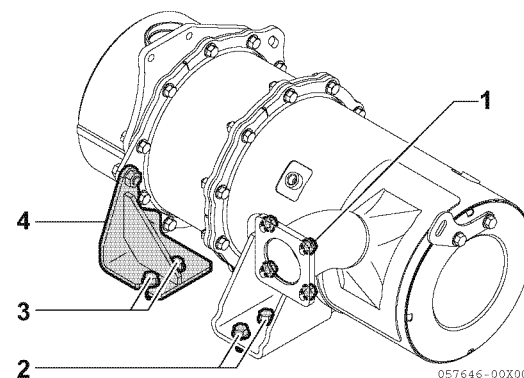

Figure 13-23
- Remove the 4 M8 flange nuts (**Figure 13-23, (1)**) on the exhaust manifold flange.
- Remove the M10 flange bolts (2 pcs. each, total 4 pcs.) (**Figure 13-23, (2, 3)**) that affix the stays (2 locations) (on the back of the DPF housing), that themselves affixes the DPF.